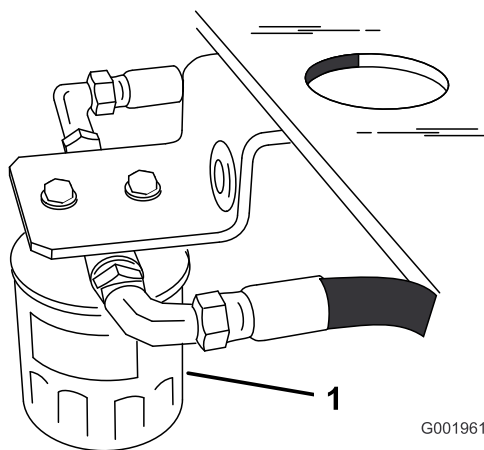

Figure 57
4. Locate the filter under the fuel tank and place drain pan under filter (Figure 57).